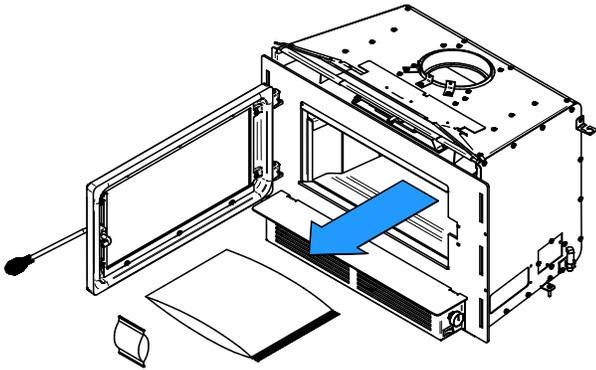

Figure 6 : Empty the combustion chamber
- Empty the combustion chamber (Figure 5) and unscrew the two screws **(B)** of the side refractory bricks supports **(A)**. The bricks can then be removed in the order shown in Figure 6.